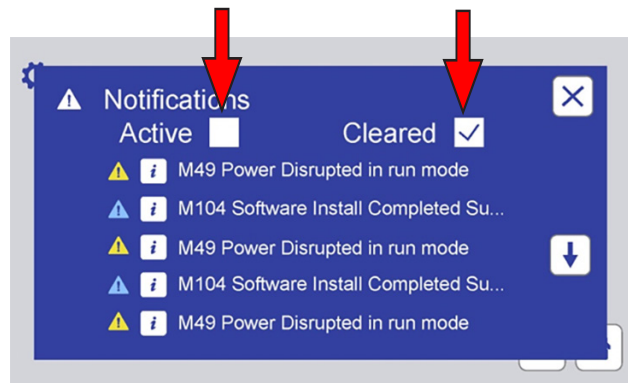
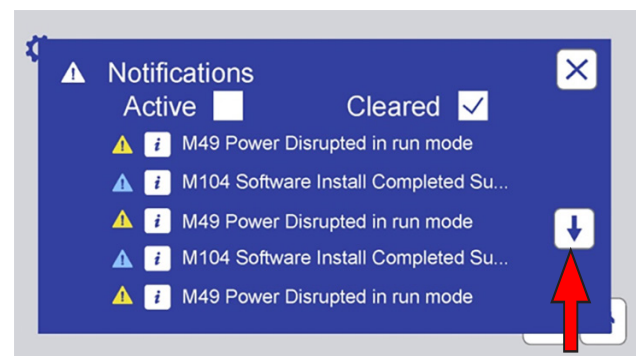

Figure 10.4c: Touch the Active or Cleared check box to view active or cleared notifications.
Figure 10.4d: Touch the scroll button(s) to move down or up the notification list.
- “Active” and “Cleared” notifications are listed separately, in chronological order, most recent at the top of the list (Figure 10.4c, Figure 10.4d).